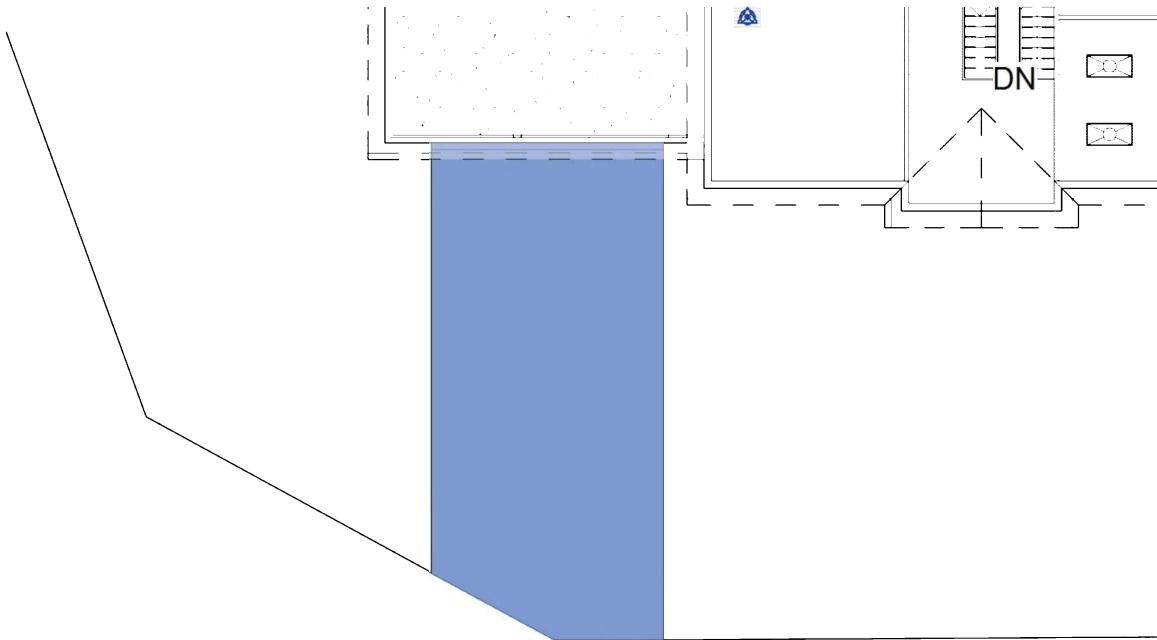

FIGURE 14-1.14 Partial site plan – closed sketch lines for subregion
28. Select the ***Subregion*** tool and sketch the lines for the driveway (see Figure 14-1.14).